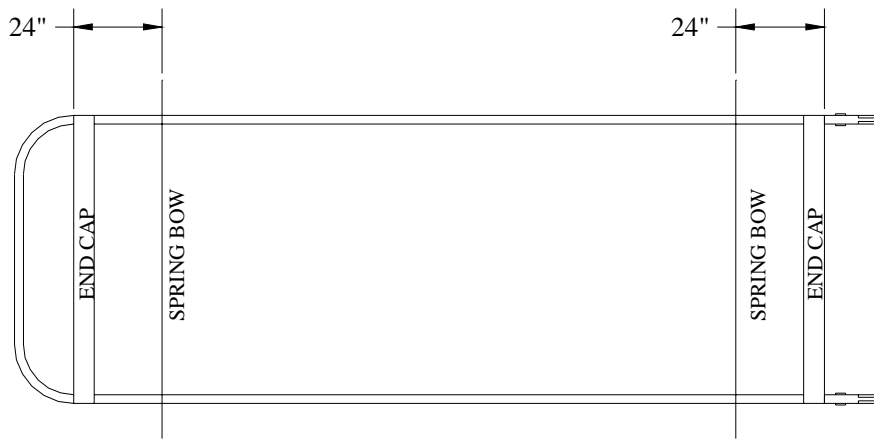

Figure 2.
1. Measure from the outside edge of the front end cap 24 inches and put a mark on each top rail. Refer to figure 2 on page 2.
2. Measure from the outside edge of the rear end cap 24 inches and put a mark on each top rail. Refer to figure 2 below.